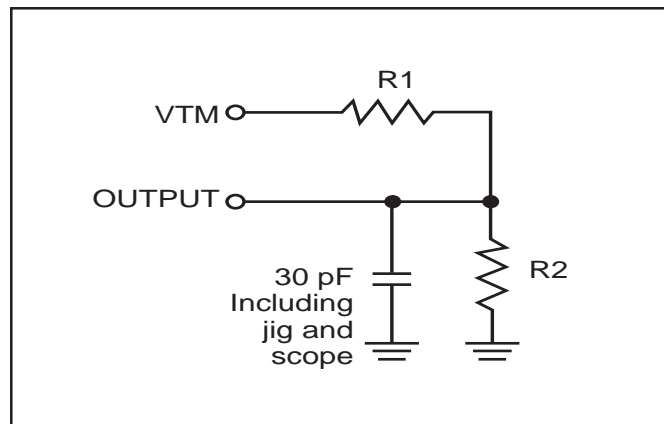

Figure 1
- Test conditions assume signal transition times of 5 ns or less, timing reference levels of 0.9V/1.5V, input pulse levels of 0.4 to $V_{DD}-0.2V/0.4V$ to $V_{DD}-0.3V$ and output loading specified in Figure 1.
1. Test conditions assume signal transition times of 5 ns or less, timing reference levels of 0.9V/1.5V, input pulse levels of 0.4 to V_{DD}-0.2V/0.4V to V_{DD}-0.3V and output loading specified in Figure 1.